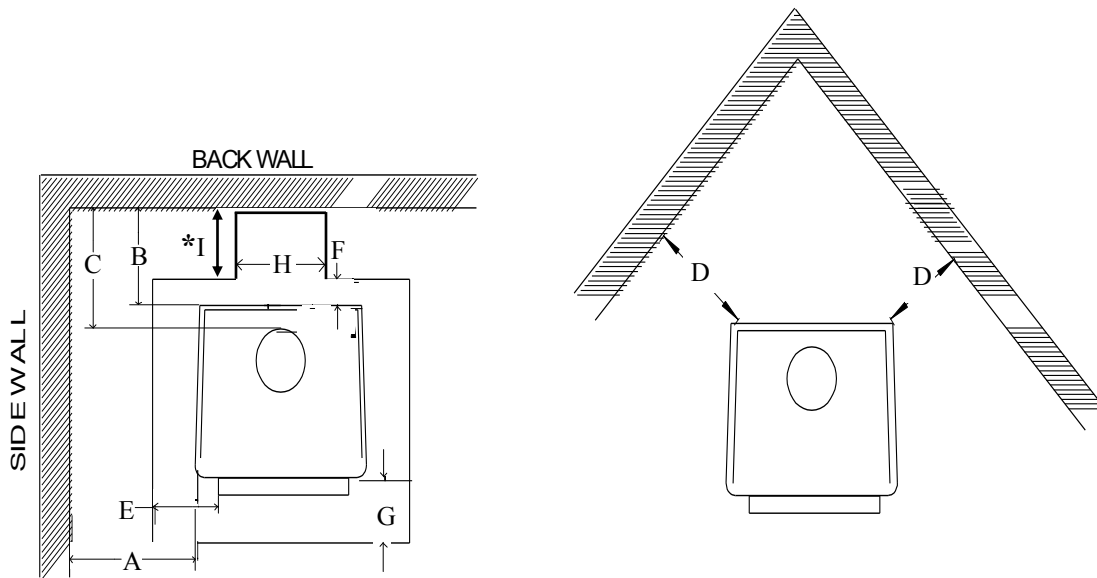

Figure 18
**NOTE:** Floor protector must be under horizontal pipe exit (See Figure 18, Page 20).
\* For wall exit, floor protector must be under horizontal pipe full length of pipe. There must be 2" on each side of pipe. Maintain 18" between pipe and ceiling. (See Figure 18, measurements H & \*I).